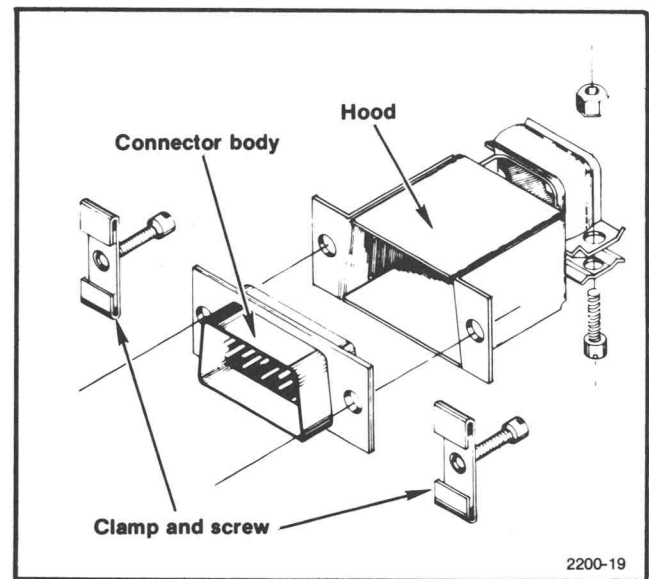

Fig. 2-12. Exploded View of REMOTE Connector.
The REMOTE connector on the rear panel may be wired for remote selection of the envelope detection mode, and for an external carrier-loss alarm. See Fig. 2-12 for the pin locations of the REMOTE connector.
**Remote Carrier-Loss Alarm.** The demodulator can be used to activate an alarm circuit that will indicate the loss of a transmitter carrier. A SPDT relay inside the 1450-1 switches when either the visual or aural carrier is missing. The relay contacts are wired to the REMOTE connector, as shown in Fig. 2-12. Pins 8 and 9 close for an alarm, and pins 7 and 8 are open for an alarm. The relay contacts are rated for maximums of 28 volts and 3 amperes.